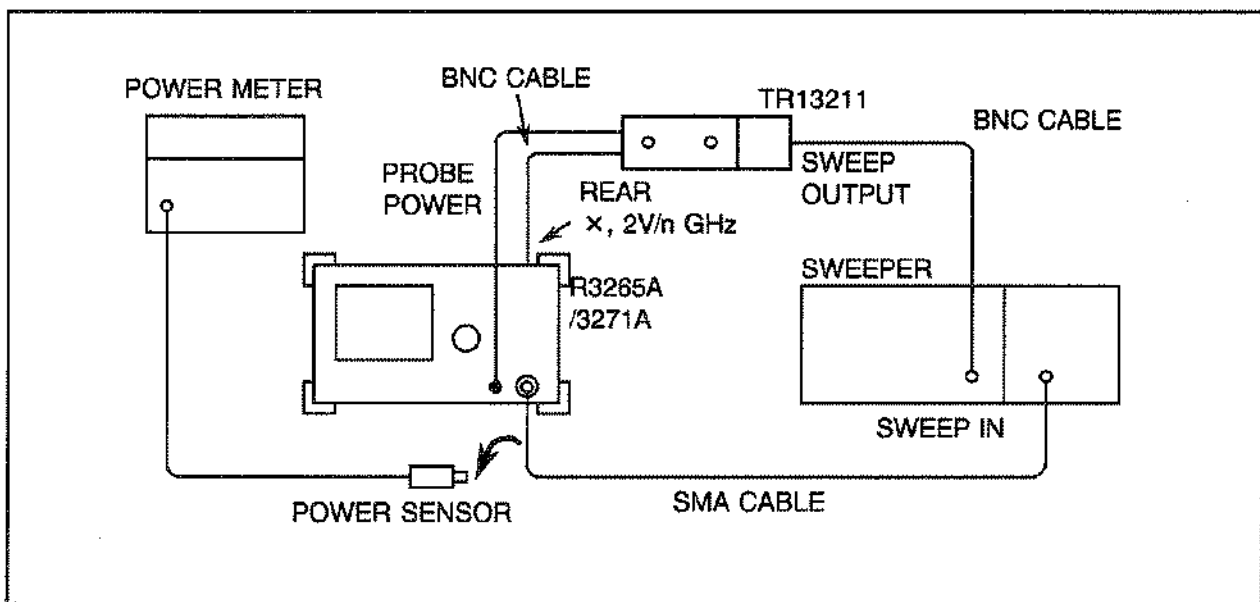

Figure 5-12 Frequency Response Adjustment Setup
- (1) Zero and calibrate the power meter. Rotate and set the CAL FACTOR control to the 2GHz calibration factor of the power sensor.
- (2) Connect the equipment as illustrated in Figure 5-12.
- (3) Press the **INSTR PRESET** key on the HP8350, and set the control as follows: